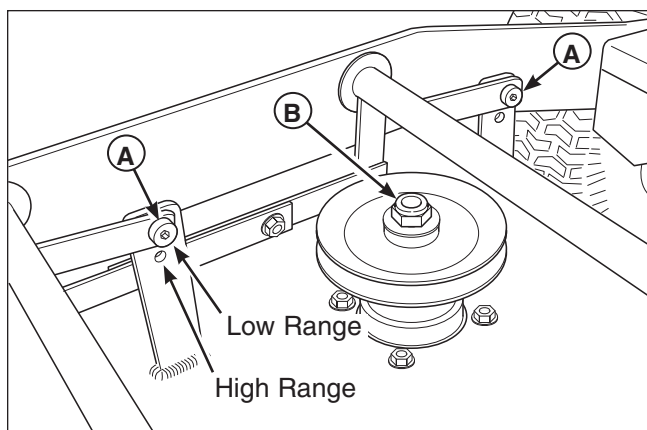

Figure 2. Pulley & Pivot Position
2. Remove the spindle nut (**B, Figure 2**) fastening the pulley to the spindle. Remove the pulley and key. Move the pulley spacers into the proper position in relation to the cutting range. Reinstall the pulley and key. Reinstall the nut and torque to 85-90 ft. lbs. (115-122 Nm).